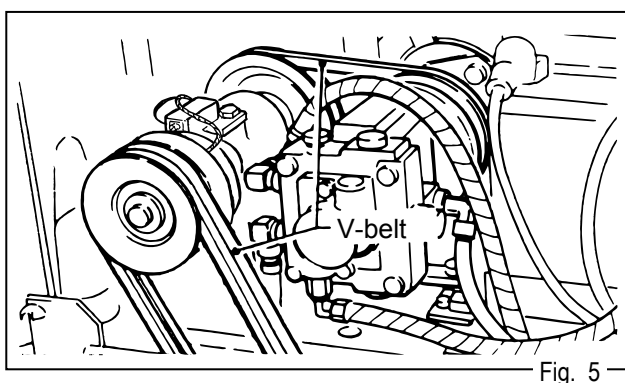

Fig. 5
- With center cover opened, check V-belt for proper tension. With insufficient tension, vibration does not transfer sufficiently. (Fig.5)